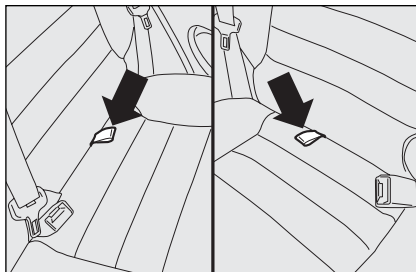

fig. 96
- pull the handle in the middle of the cushion **fig. 96**, and tilt the required cushion;